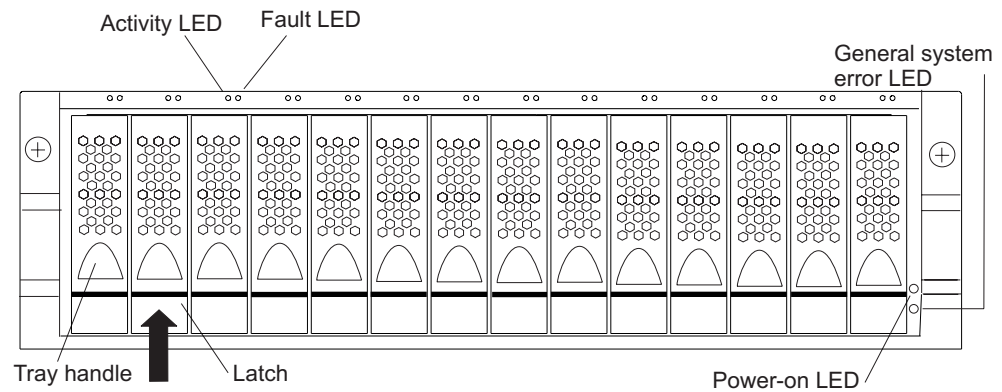

Figure 46. Hot-swap hard disk drive LEDs
2. Check for Fault LEDs shown in Figure 46. If any amber LEDs are lit, see “Solving problems” on page 103.
- a. Release the latch on the drive CRU by pinching together the blue line on the tray latch and the finger hole on the tray handle, as shown by the arrow in Figure 46.